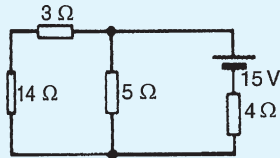

Figure 13.49
- Use Thévenin's theorem to find the current flowing in the  $14\ \Omega$  resistor of the network shown in Fig. 13.49. Find also the power dissipated in the  $14\ \Omega$  resistor.